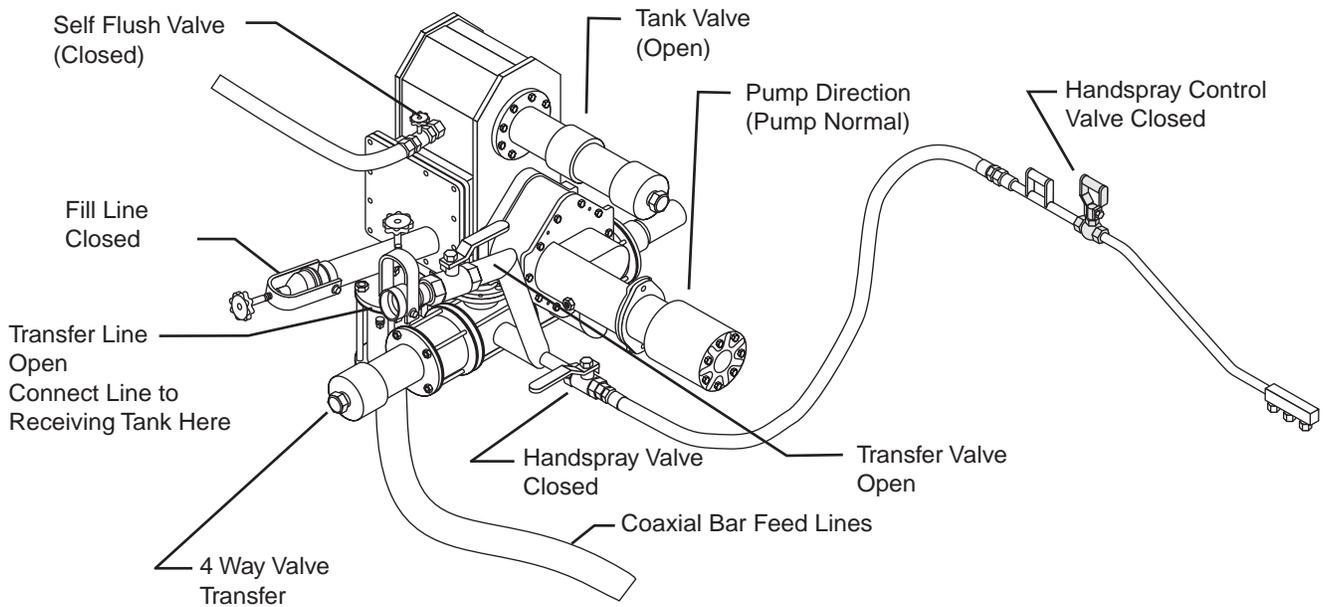

Figure 10. Valve Positions for Pumpoff
6. Set all of the valve positions (see Figure 10).